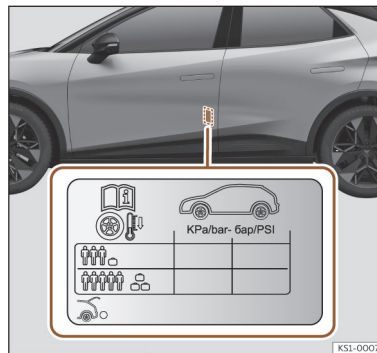

Fig. 198 Location of the tyre pressure sticker.
- Adjust tyre pressure to the load being carried by the vehicle >>> **Fig. 198**.
The tyre pressure values are shown on the sticker located on the rear frame of the front left door >>> **Fig. 198.**
The tyre pressure must be adjusted according to the load the vehicle is carrying. If the vehicle is going to be fully loaded, increase the tyre pressure to the maximum load value shown on the sticker >>> **Fig. 198.**
In the case of a minimised temporary spare wheel (125/70 R16 or 125/70 R18) inflate to a pressure of 4.2 bar as indicated on the tyre pressure label >>> **Fig. 198.**
- The driver is responsible for ensuring that all of the vehicle tyres are correctly inflated to the right pressure. The recommended tyre pressure is indicated on the label >>> **Fig. 198.**
- Tyre pressure should be as indicated on the label when the tyres are cold at all times >>> **Fig. 198.**